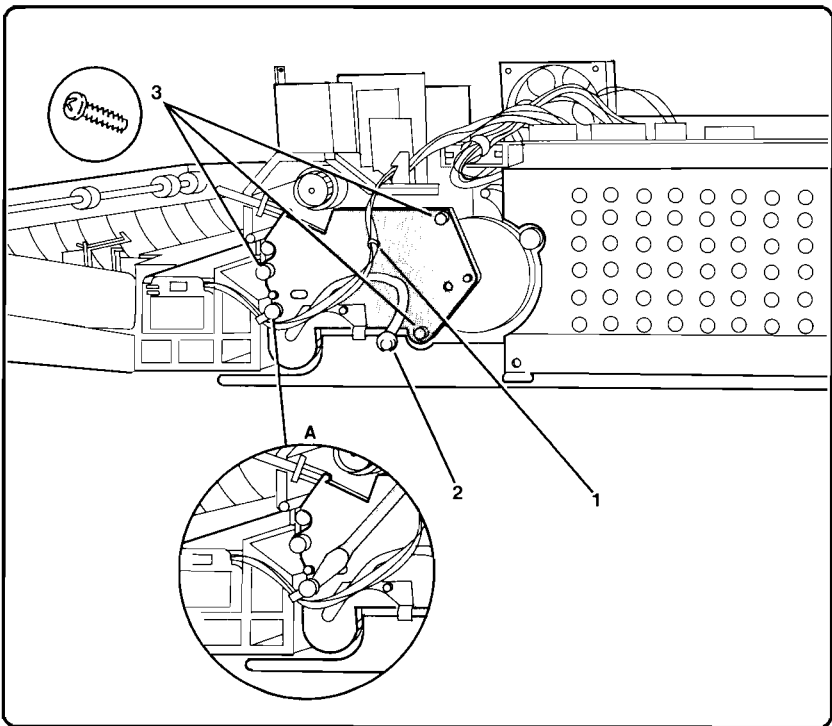

Figure 6-43. Main Drive Gear Assembly Removal
2. Remove the cable from the Cable Clip (Figure 6-43, callout 1).
3. Unclamp the Cable Clamp securing the cable to the Main Drive Gear Assembly (see Figure 6-43, detail A).
4. Remove the screw (1) securing the grounding cable to the frame and Main Drive Gear Assembly plate (see Figure 6-43, callout 2).
5. Remove the screws (3) securing the Main Drive Gear Assembly (see Figure 6-43, callout 3).
2. Remove the Main Drive Gear Assembly (see Figure 6-43).